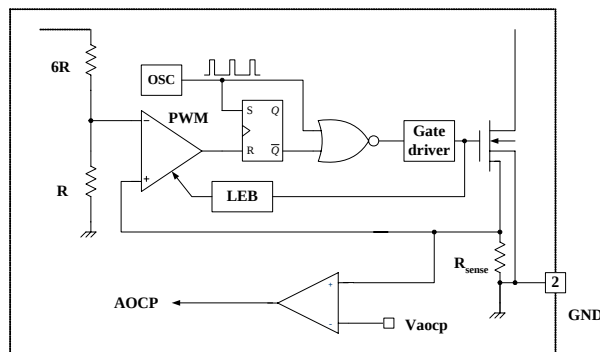

Figure 9. Abnormal Over-Current Protection
**4.2 Abnormal Over-Current Protection (AOCP):** When the secondary rectifier diodes or the transformer pins are shorted, a steep current with extremely high di/dt can flow through the SenseFET during the LEB time. Even though the FSQ-series has OLP (Overload Protection), it is not enough to protect the FSQ-series in this abnormal case, since severe current stress is imposed on the SenseFET until OLP triggers. The FSQ-series has an internal AOCP circuit, as shown in Figure 9. When the gate turn-on signal is applied to the power SenseFET, the AOCP block is enabled and monitors the current through the sensing resistor. The voltage across the resistor is compared with a preset AOCP level. If the sensing resistor voltage is greater than the AOCP level, the set signal is applied to the latch, resulting in the shutdown of the SMPS.